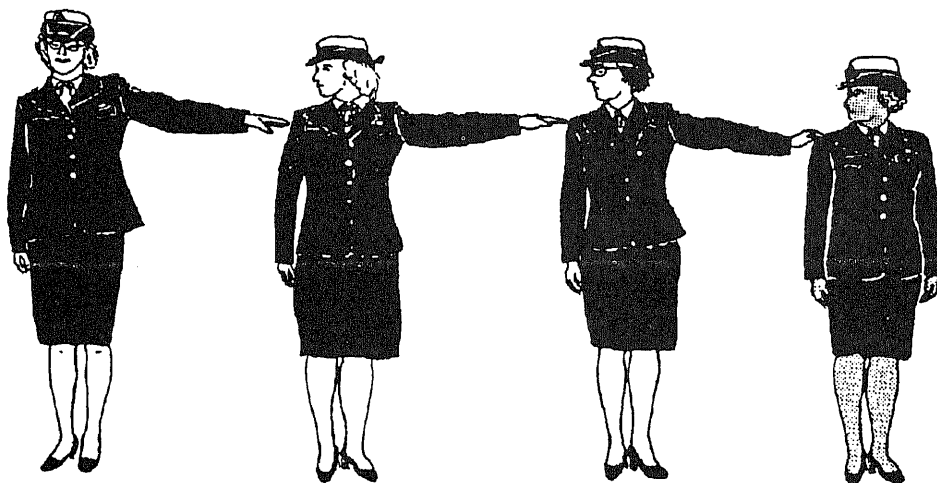

Figure 11-6.—Normal interval.
**FALL IN:** On the command FALL IN, the squad forms in line on the left of the right flank member (squad leader). Each member of the squad, except the left flank member, raises the left arm shoulder high in line with the body. Fingers are straight and touching each other, palm down. Each member, except the right flank member, turns the head and looks to the right. To obtain a normal interval, as shown in figure 11-6, move in line so that your right shoulder touches the fingertips of the person to your right. As soon as you are in line with the person to your right and the person on your left has obtained normal interval, return smartly and quickly to the position of attention.
MARCH, all members, except the right flank member, pivot to the left on the ball of the right foot and step off on the left foot (one count). They march forward until they obtain an approximate normal interval, halt, and face to the right. Then they form at normal interval, as previously described (fig. 11-6). Each member drops the left arm when the member to the left has obtained the proper interval.